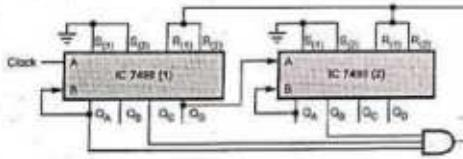

Fig. 5.12.7
**Solution :** IC 7490 is a decade counter. When two such ICs are cascaded, it becomes a divide-by-100 counter. To get a divide-by-25 counter, the counter is reset as soon as it becomes 0010 0101. The diagram is shown in Fig. 5.12.7.